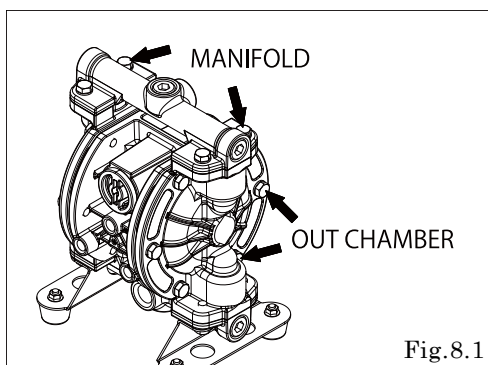

Fig. 8.1
- Retighten the Out chamber and then the manifold in this order. [Fig. 8.1]